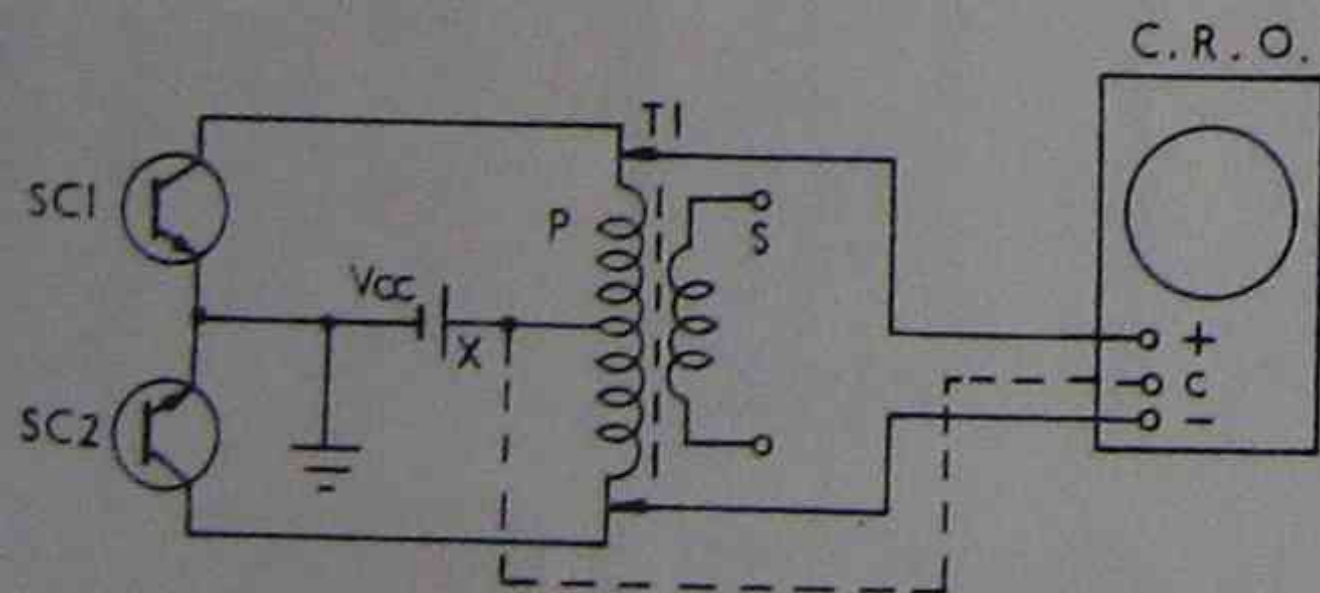

FIG. 39. BALANCED C.R.O. INPUT.
10.4 Balanced connections, between the + and - terminals, are used to measure potential difference in circuits such as that shown in Fig. 39. This shows a push-pull output stage and the unbalanced connection could only be used to examine the output of one transistor at a time. The balanced connection shows the potential differences across the transformer primary and the resultant induced currents should produce a corresponding waveform in the secondary of the transformer.
The common terminal is sometimes left disconnected, but, where a large unwanted signal such as A.C. ripple is common to both inputs it may cause interference to the trace. This common interference can be rejected to a large degree by connecting the common terminal to the source of the interfering signal. Thus any ripple in the power supply in Fig. 39 is eliminated from the C.R.O. trace by connecting the common (C) terminal to point X as indicated by the dotted line.